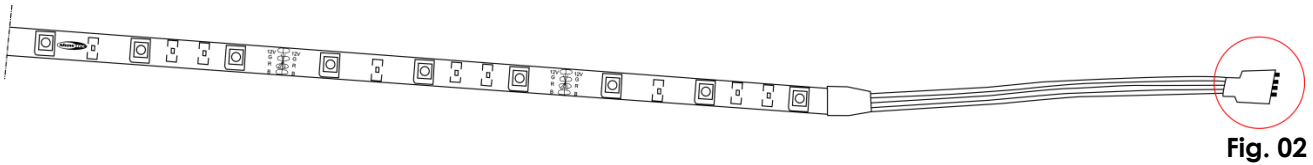

Fig. 02
01) Take the connector from the Flexstrip and connect it to the RGB controller, see figure 02 and 03.